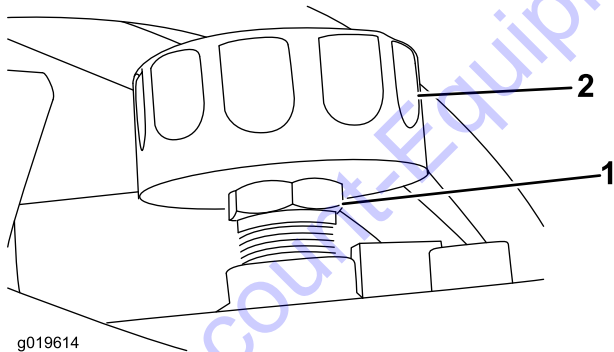

Figure 33
4. Remove the hydraulic tank breather/filler cap (Figure 33).